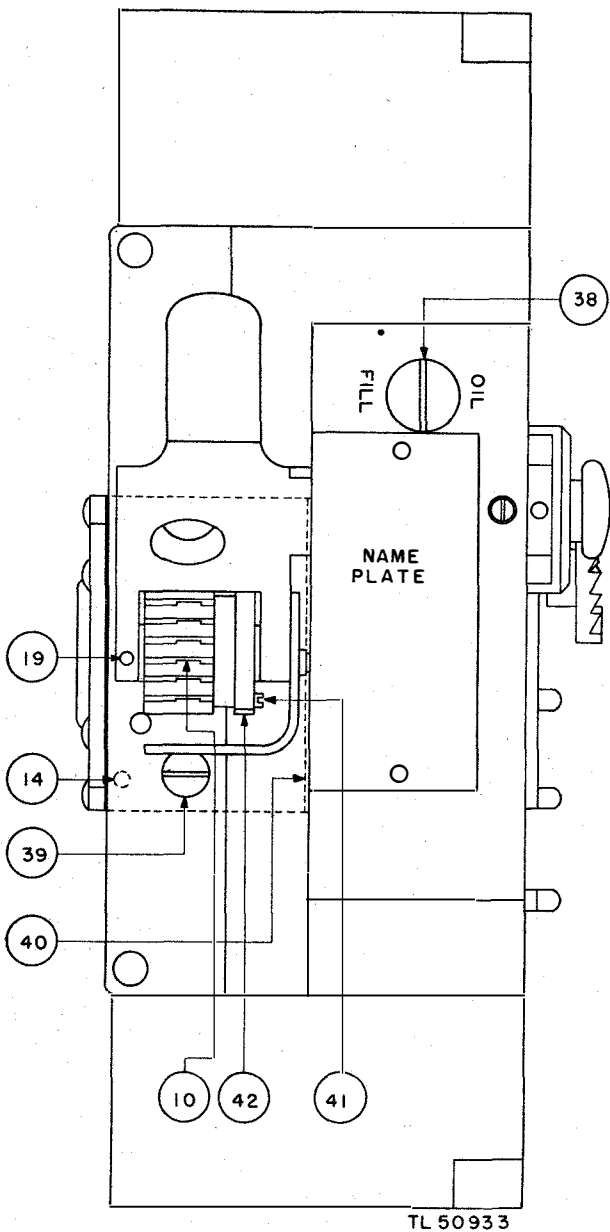

Figure 27. Keying head, general assembly, top view.
**f. Timing Adjustment (figs. 27 and 28).** The gear train and call-letter drum are properly timed with relation to the selector pins when a tooth of the drum engages the selector pin at the top of the pin's stroke. If the selector pin butts against the edge of the tooth, the timing is out of adjustment. An external adjustment is provided for shifting the gear on the call-letter drum to compensate for normal wear. Make this adjustment as follows:
- (1) Press down on the call-letter drum lever and raise the call-letter drum (10) as high as it will go.
- (2) Loosen the small screw (41) on the back of the call-letter drum gear (42). Turn the gear with relation to the drum until the next higher number on the gear is in line with the beveled marker tooth on the drum.
- (3) Tighten the screw which holds the gear and the drum in line.
- (4) This adjustment can be made only three times. The call-letter drum gear (42) has four positions marked on it: 0, 1, 2, and 3. The gear, when new, is set on 0 and can be moved to positions 1, 2, and 3, in that order.
- (5) If the third adjustment has been made and the selector pins are again out of time with the call-letter drum, dismantle the keying head and inspect all parts for wear. Replace worn parts, and set the call-letter drum and gear back to the zero position.